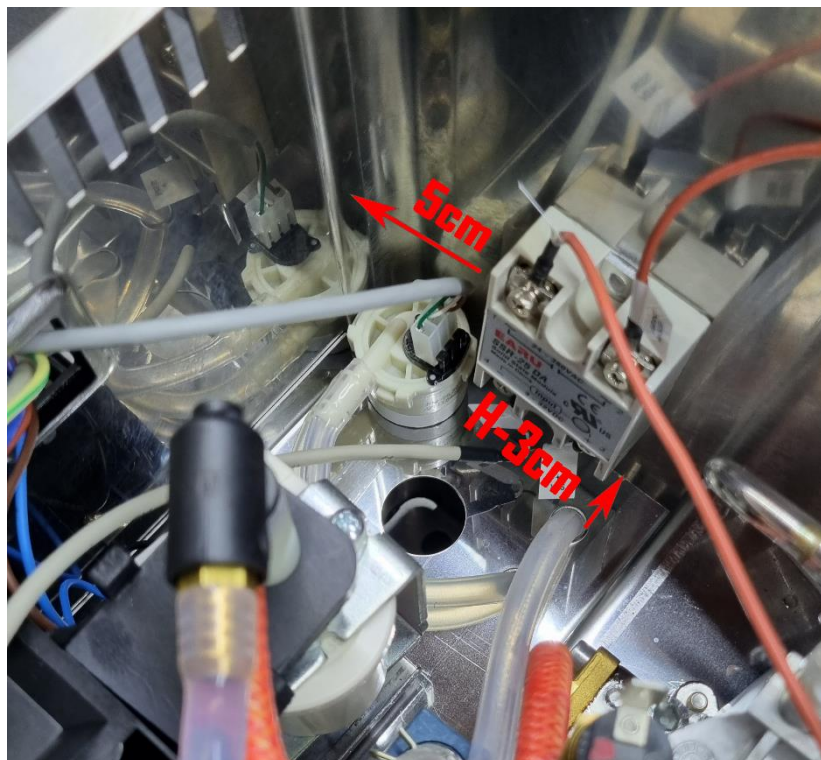

Fig. 7.2
- Prepare to glue the relay inside. Mounting position will be to the back left side at 3cm high from the inside floor and 5cm from the back, looking from the behind the machine. (fig. 7.2)